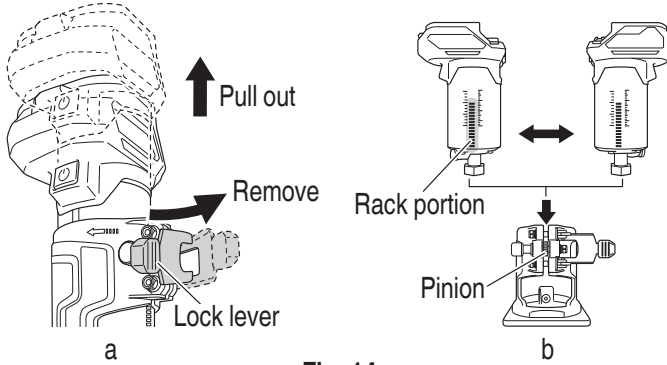

Fig. 14
- (1) Tilt the lock lever towards the remove side, and remove the base ass'y from the body. (Fig. 14-a)
- (2) Rotate 180 degrees, and place back in the base ass'y, then tilt the lock lever towards the fix side. (Fig. 14-b)